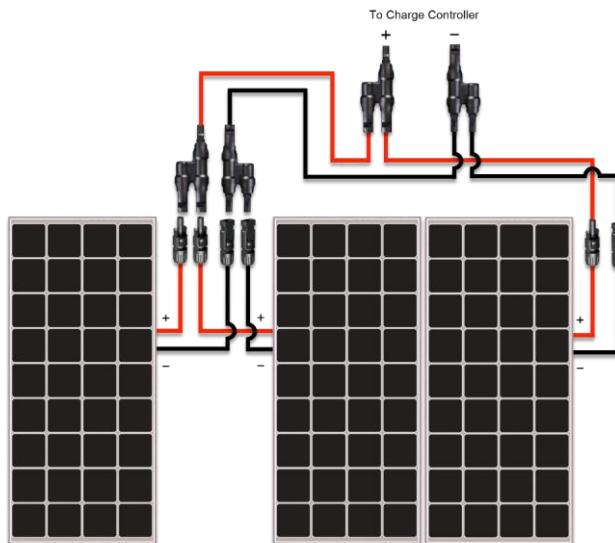

Figure 8.3 Three RNG-100D Panels in parallel
Three solar panels is the maximum amount of panels that can be connected in parallel if they are adjacent to one another, without using extra cabling. **Fig. 8.3** above shows the arrangement for connecting three solar panels in parallel. Remember that this arrangement is applicable if the three solar panels are to be mounted adjacent to one another. This connection requires **two (2)** pairs of MC4 Branch Connectors. When one or multiple panels are mounted at different locations—that is, separated by a distance, the panels need to be extended with MC4 Extension Cables (sold separately).